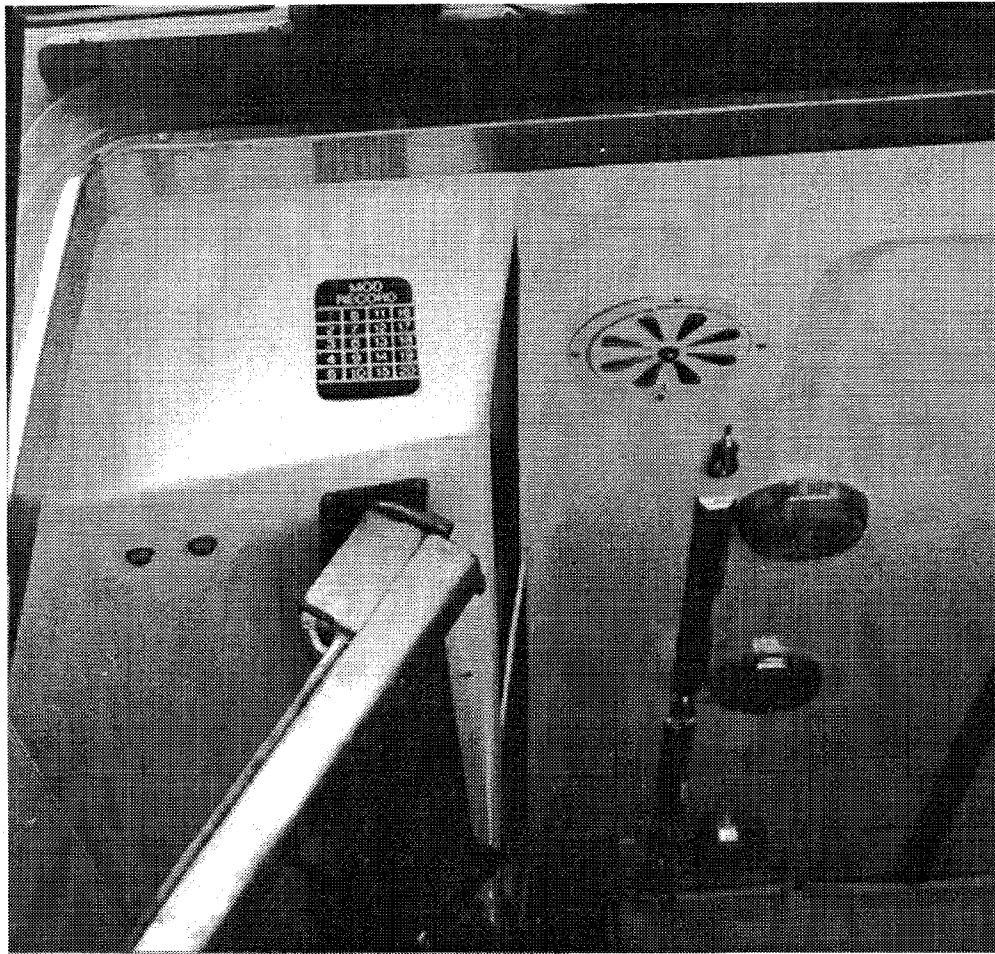

Figure 5 - Location of Modification Plate
- n. Position and secure the pressure sensitive modification plate at the rear of the vehicle, 260 mm from the internal wall and 35 mm from the lower edge of the shelf, as shown in Fig 5.